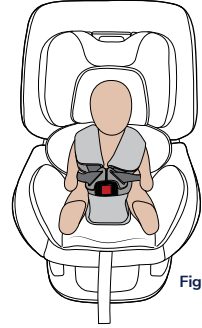

Figure 4
Step 2. Place harness straps over child's shoulders and position buckle between child's legs (Figure 4).